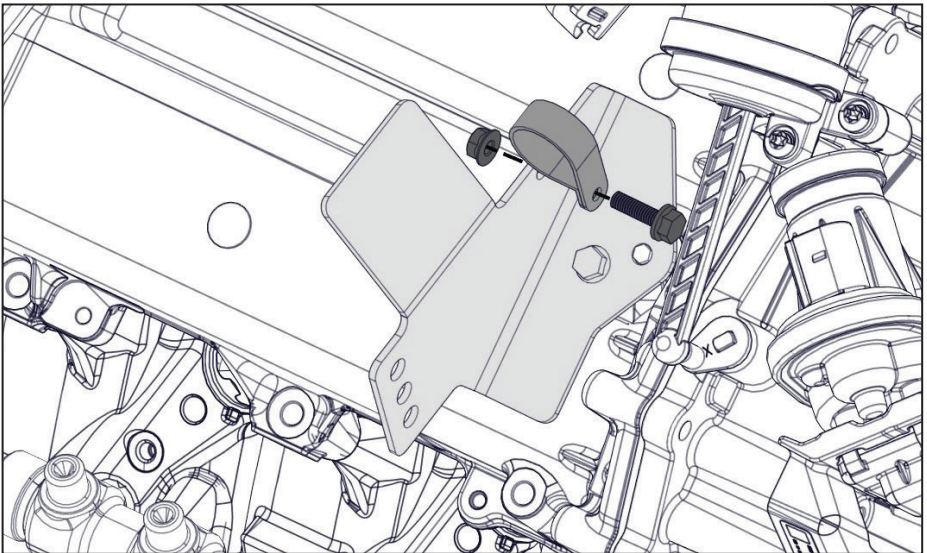

Figure 19 — Install oil fill bracket
- ☐ Using the supplied P-clip and fasteners, secure the harnesses where they pass over the oil fill bracket (Figure 19).